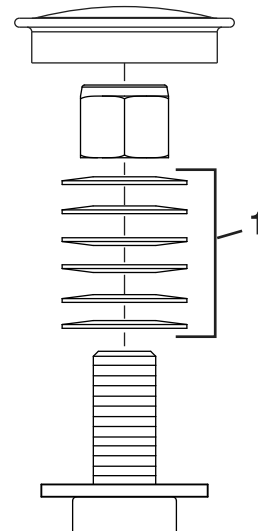

Figure 88
3. Remove the dust cap from the caster and tighten the locknut (Figure 88).
4. Tighten the locknut until the spring washers are flat, and then back off a 1/4 turn to properly set the preload on the bearings (Figure 88).
Important: Make sure that the spring washers are installed correctly as shown in Figure 88.
5. Install the dust cap (Figure 88).